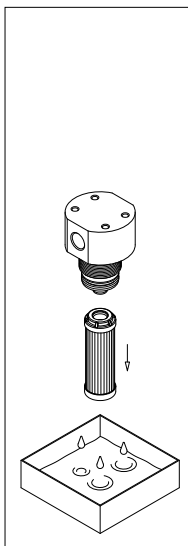

fig. 3
- (Fig. 3) Pull the filter element out. Clean the cavity in the housing, the tap and the bowl. Check them for damage.